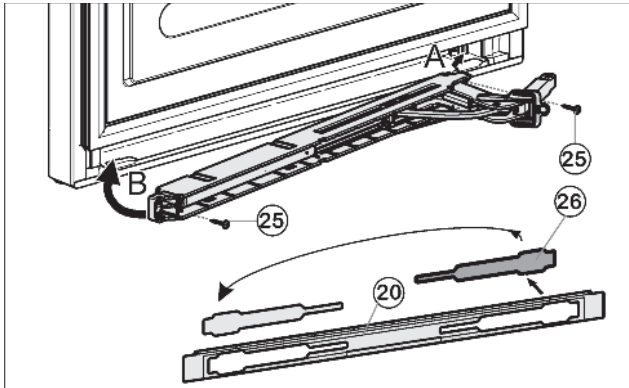

Fig. 15
- ▶ Loosen cover Fig. 15 (26) from the panel Fig. 15 (20) and insert on the other side.
- ▶ With the hinge of the soft stop unit facing the door hinge side, engage the soft stop unit (A) and swivel inwards (B)
- ▶ Tighten soft stop unit (2 x Torx® 15) Fig. 15 (25).